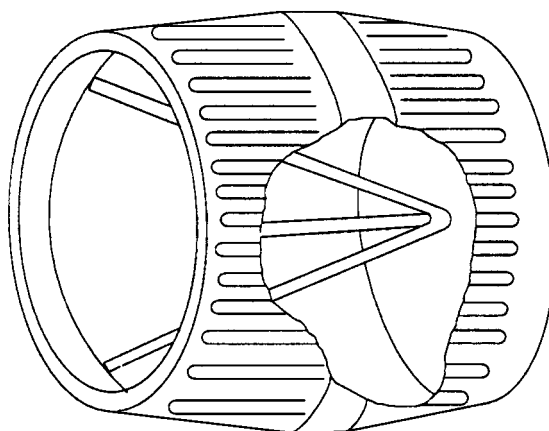

Figure 8 - Tube Reamer
5.3.8 Tube Reamer (see Figure 8)